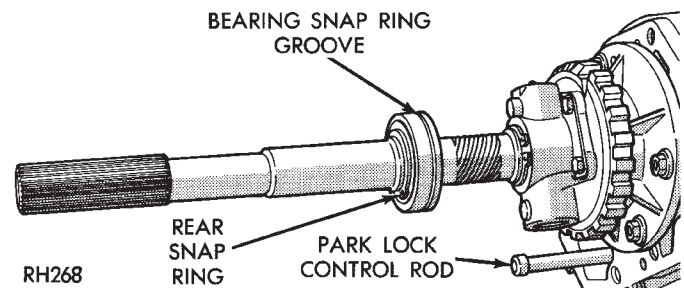

Fig. 30 Output Shaft Rear Bearing—Typical GOVERNOR AND PARK GEAR
(1) Remove extension housing.
(2) Remove snap ring that retains rear bearing on output shaft (Fig. 30).
(3) Remove bearing from output shaft.
(1) Install bearing on output shaft. Be sure retaining ring groove in outer circumference of bearing is toward the governor.
(2) Install rear bearing retaining snap ring (Fig. 30).
(3) Install extension housing.